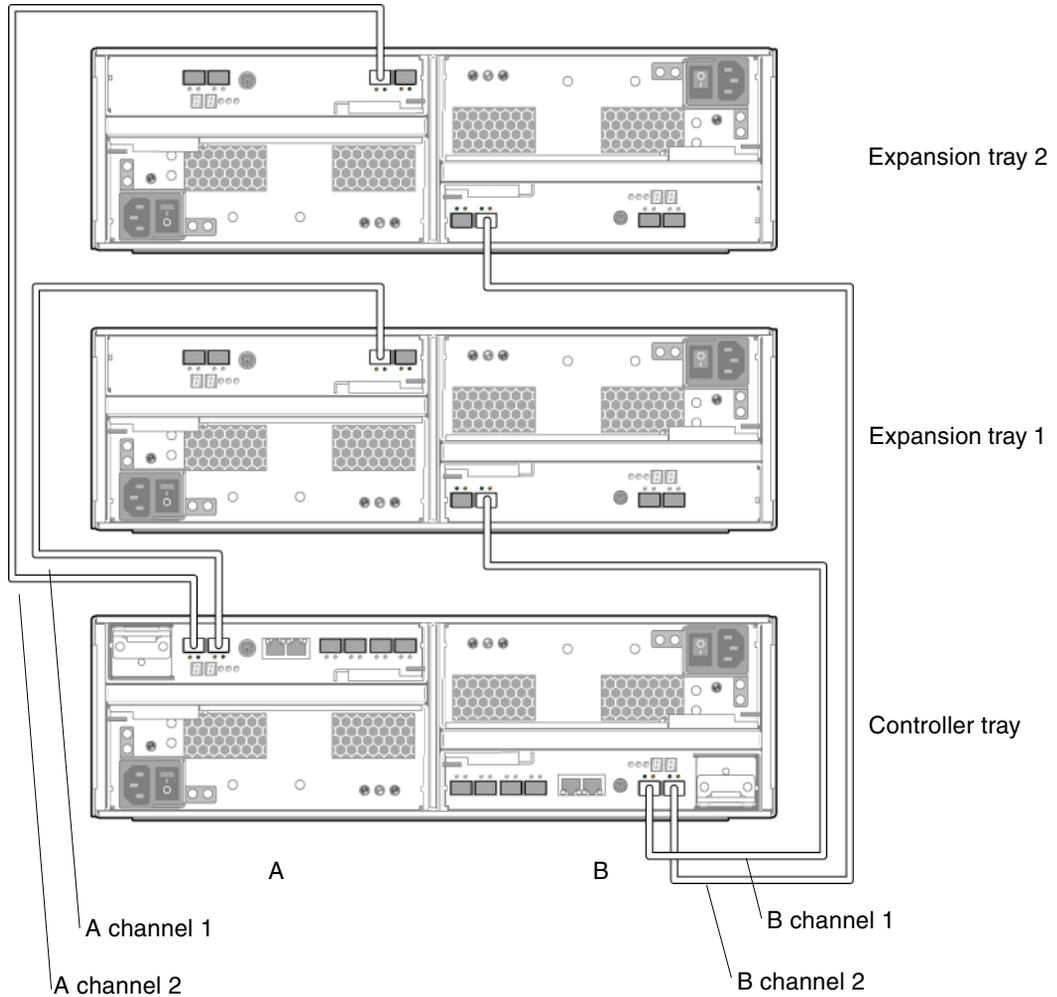

FIGURE 2-24 1x3 Array Configuration Cabling
3. Connect one FC cable between the Controller B channel 1 expansion port and the B-side expansion port 1B of expansion tray 1 (FIGURE 2-24).
4. Connect one FC cable between the Controller B channel 2 expansion port and the B-side expansion port 1B of expansion tray 2 (FIGURE 2-24).
5. Connect one FC cable between the Controller A channel 1 expansion port and the A-side expansion port 1B of expansion tray 1 (FIGURE 2-24).
6. Connect one FC cable between the Controller A channel 2 expansion port and the A-side expansion port 1B of expansion tray 2 (FIGURE 2-24).